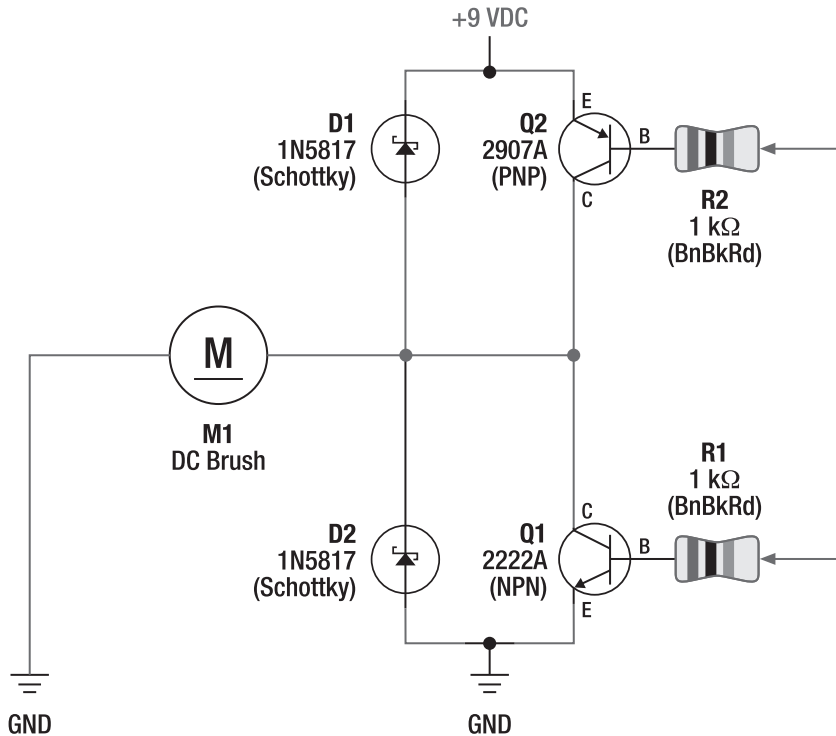
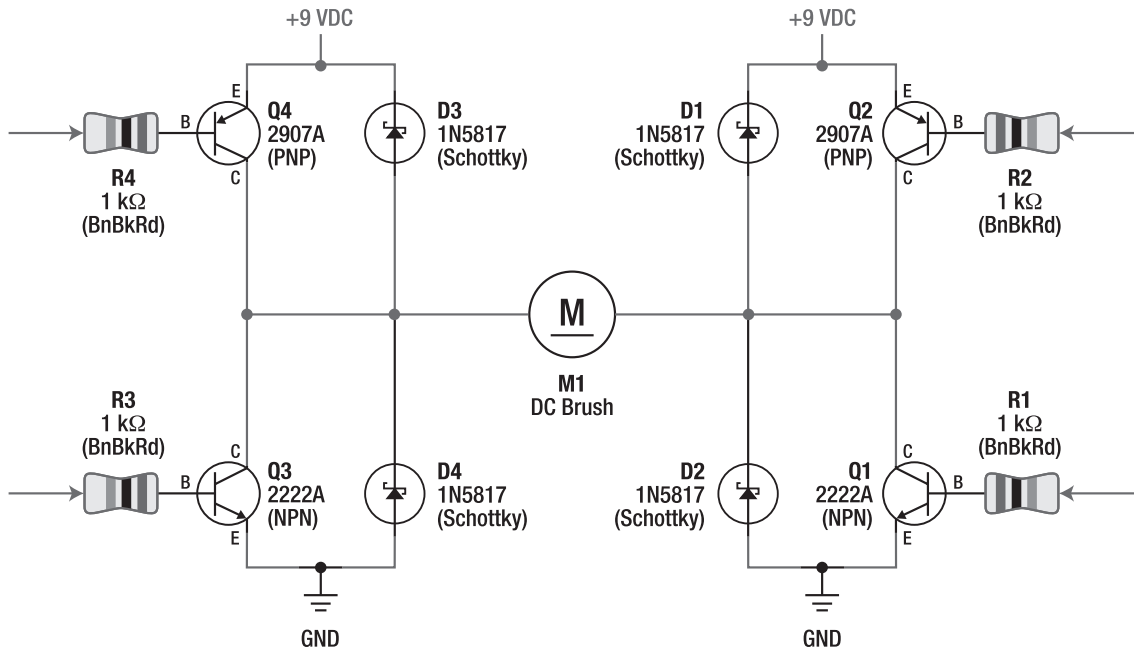
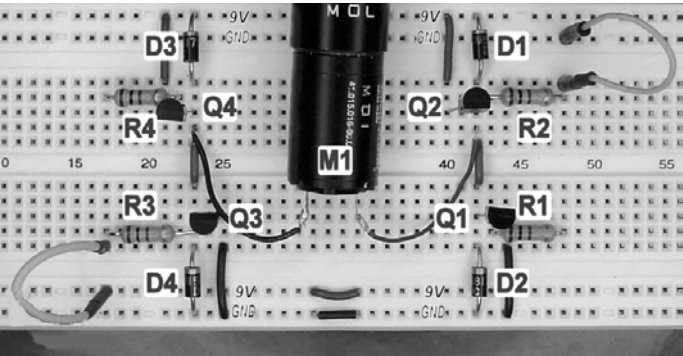

Figure 9-11. The previously presented NPN and PNP circuits connected
Figure 9-14. A classic bipolar NPN and PNP H-bridge motor driver
Figure 9-20. H-bridge motor driver implemented on a solderless breadboard
This next circuit combines the NPN and PNP motor drivers (see Figure 9-11). It may look complicated at first glance, but it's really not. It's the same parts in the same places from the prior circuits. The only difference is that one motor wire connects in the middle of the circuit, and the other motor wire connects to ground. This arrangement is sometimes called a *totem pole* or *half bridge*.
Doubling the previous circuit gets you the classic H-bridge (see Figure 9-14). This circuit is called an *H-bridge* because it kind of looks like a capital letter *H*.
It looks tortuous, but it's really just four transistor switches (two PNPs on top and two NPNs on the bottom) in the same configuration as the circuits already presented so far in this chapter. The right half of Figure 9-14 is the same as Figure 9-11. The left half of Figure 9-14 is the same circuit mirrored from the right half.
The H-bridge circuit (see Figure 9-20) is implemented with only four transistors, four resistors, and four diodes. Notice that only one jumper appears on each side of the board, thus eliminating the possibility of a short circuit. Compare Figure 9-20 to the schematic shown in Figure 9-14.
Most high-speed CMOS (HC) chips operate from 2 V to 6 V. Let's say you build a robot completely out of those types of chips, and you don't bother with voltage regulation. Now let's say the power source was four nickel-metal hydride (NiMH) batteries that ranged from 4.8 V (nominally charged) to 4 V (exhausted). The robot would work fine without needing to alter the bipolar NPN/PNP H-bridge shown in Figure 9-14.